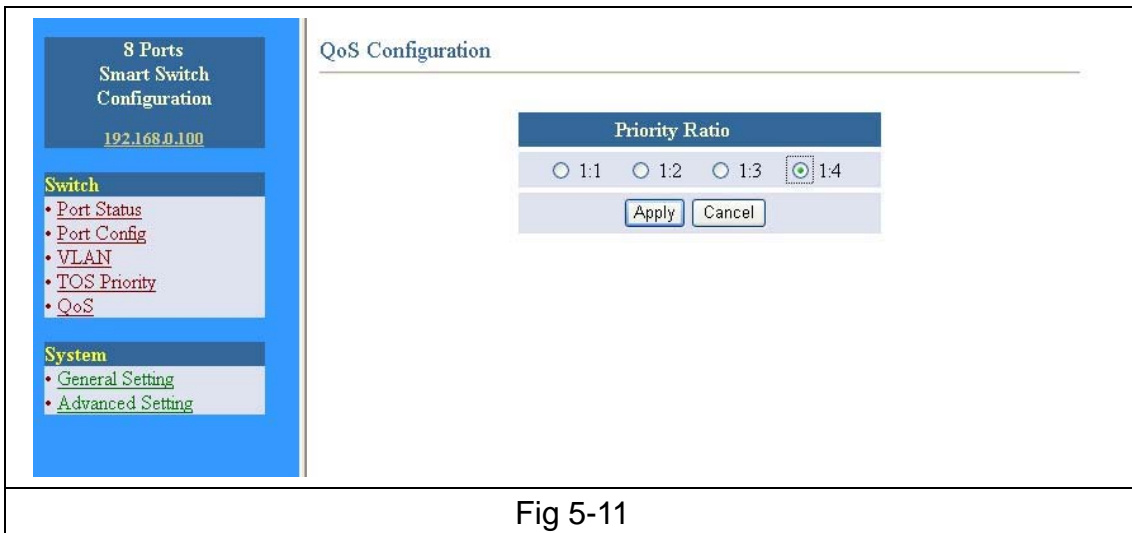

Fig 5-11
1. Select the Priority Ratio. (“High Queues & Low Queue” Ratio) (Fig 5-11)